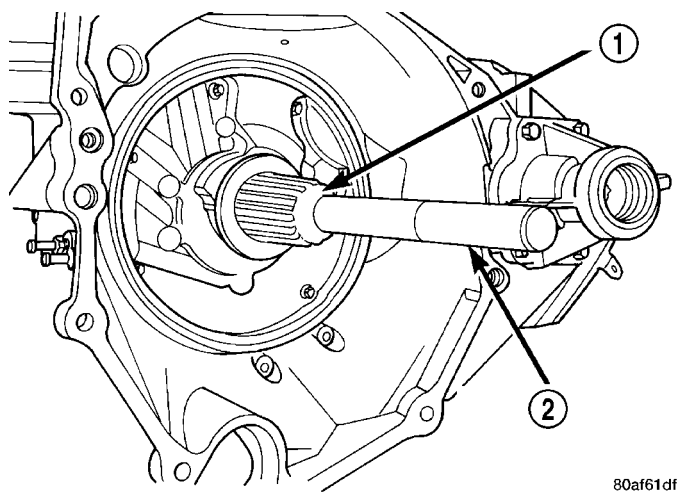

Fig. 258 Install Oil Pump Seal
(1) Using Tool C-4193, install oil pump seal (Fig. 258).